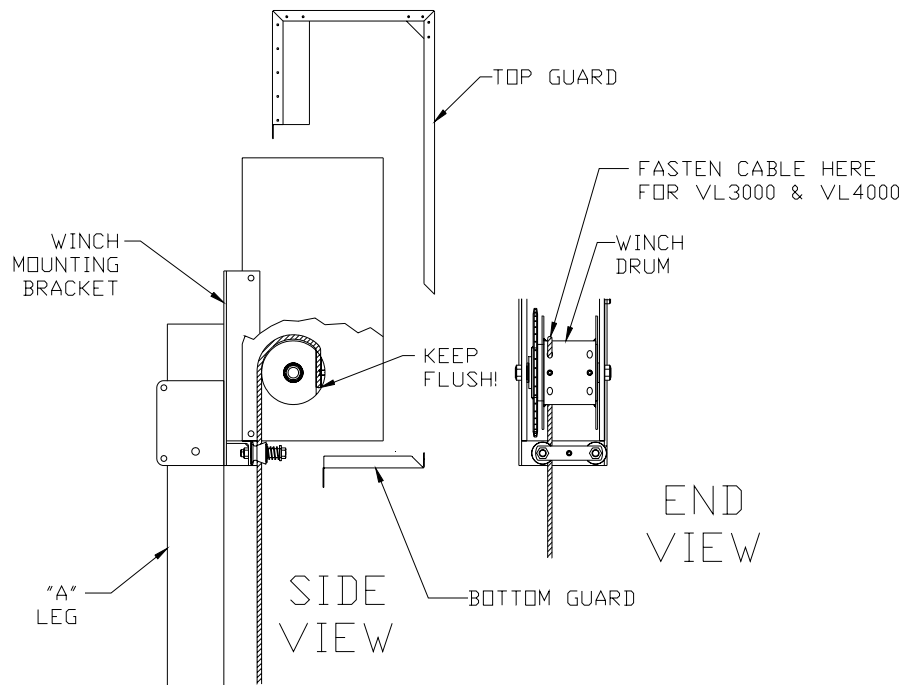

Figure 3-10
1. Refer to Figure 3-10. Remove the top and bottom guards from the winch housing by removing the (4) ¼ -20 pan head screws.
3. Starting from the bottom of winch, reeve the cut end of cable between the cable guide roller assembly, and up the backside of winch. Wrap the cable over the top of winch drum, inserting cable into the hole on the LEFT SIDE of drum as shown in Figure 3-10. **Keep the cable flush with the drum wall.**